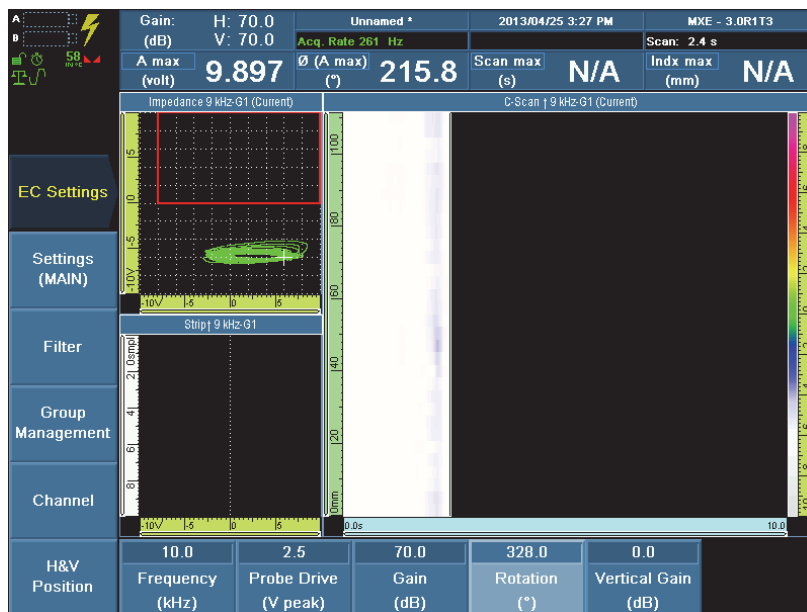

Figure 9-21 Rotation parameter set to orient the signal horizontally
- e) Select **Rotation (°)**, set the value to orient the signal horizontally. In this example, the **Rotation (°)** value is set to 320.0, and then press the Accept key to confirm (see Figure 9-21 on page 153).